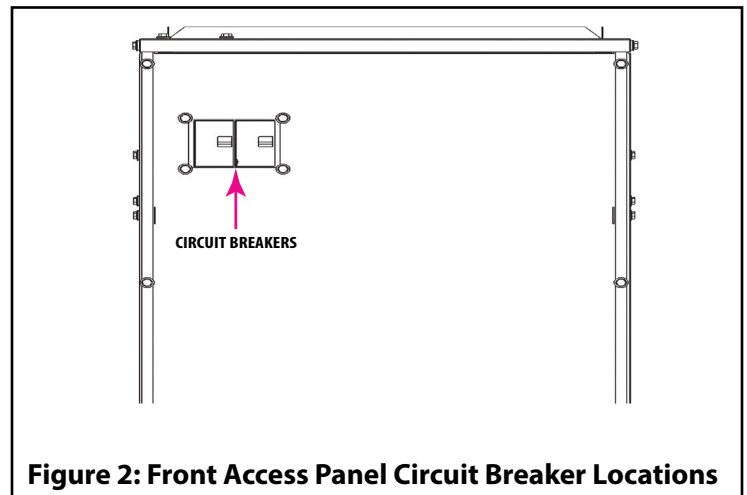

Figure 2: Front Access Panel Circuit Breaker Locations
- Turn the circuit breaker(s) located on the front panel of an electric heat air handler to "ON" position (See Figure 2).
- Turn the circuit breakers on the front of an electric heat air handler to the "OFF" position (See Figure 2).